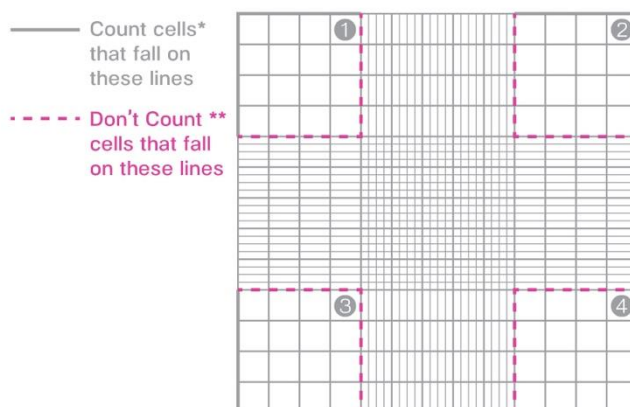

Figure 5: Manual hemocytometer
13. Fix the counting solution thoroughly and count cells using a manual hemocytometer. (See Figure 5 below.)